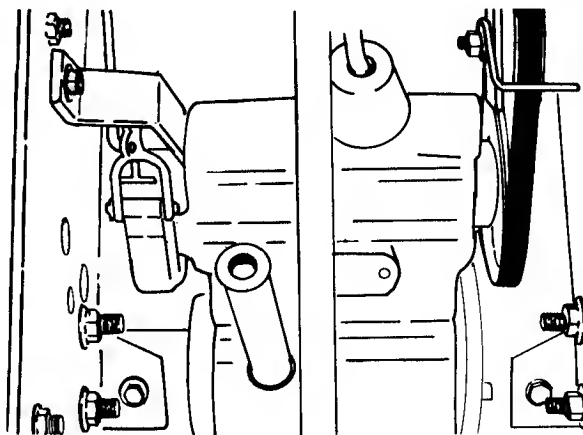

FIG. 4.1-TRANSAXLE RETAINING BOLTS
2. Remove drive belt from transaxle pulley and disconnect brake linkage at brake. Fig. 4.1.
4. Remove transaxle retaining bolts. Fig. 4.1.
2. Install retaining bolts and tighten securely. Fig. 4.1.